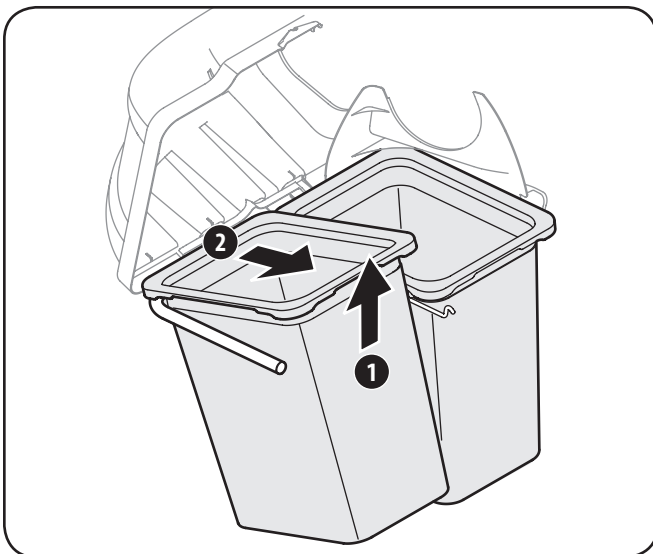

Figure 5-2
3. Remove the grass bags by lifting these up (1) and moving the bags away from the bag support assembly (2). See Figure 5-2.